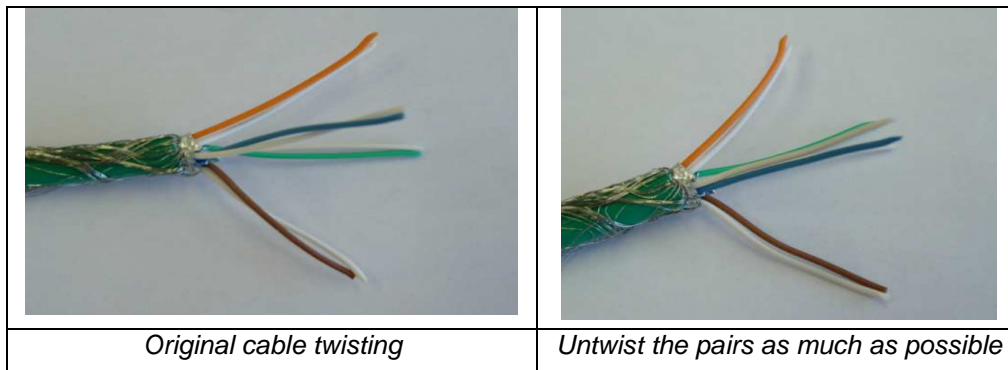

Figure 4
1. While firmly holding the cable jacket next to the stripped end, untwist the pairs as much as possible as shown in figure 4.